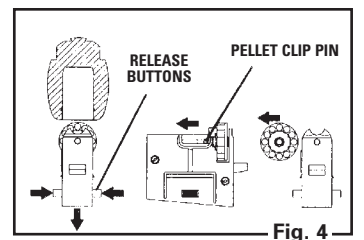

Fig. 4
- Slide the pellet clip pin forward and remove the pellet clip from the side of the pellet magazine. (Fig. 4)